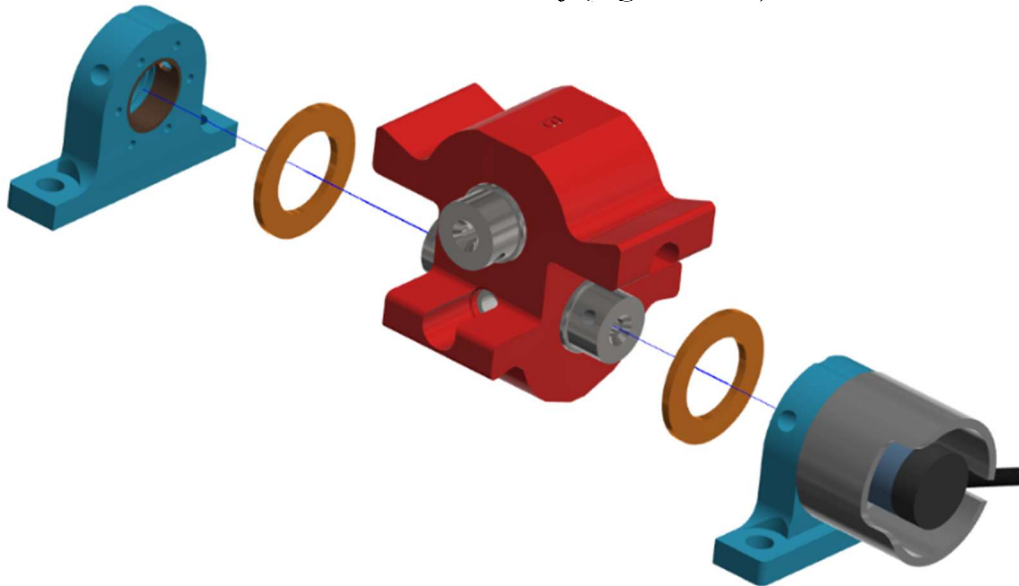

Figure 10-40. Ankle bushing plates and ankle block assembly
10.3.5 Slide the two Ankle Bushing Plates (472-7581), on with the Y-pot attached, on to the Ankle Center Block Assembly (Figure 10-40).